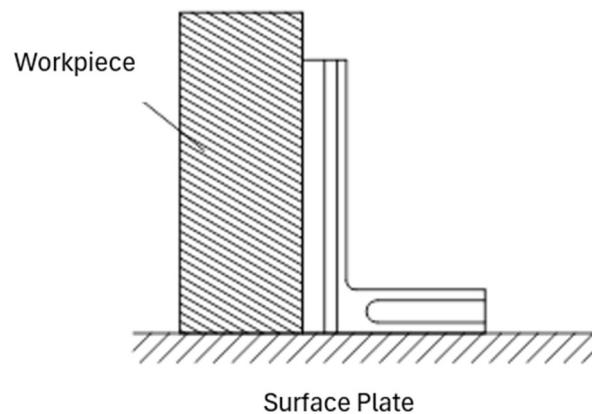

Figure 2 Instructions for Using the Engineer's Square
- 1) As shown in Figure 2, place the square upright on a Reference Surface Plate or similar, and press the Precision Surface against the workpiece to perform the measurement. At this time, check the gap between the square and the workpiece by the amount of light passing through or by using a thickness gauge.